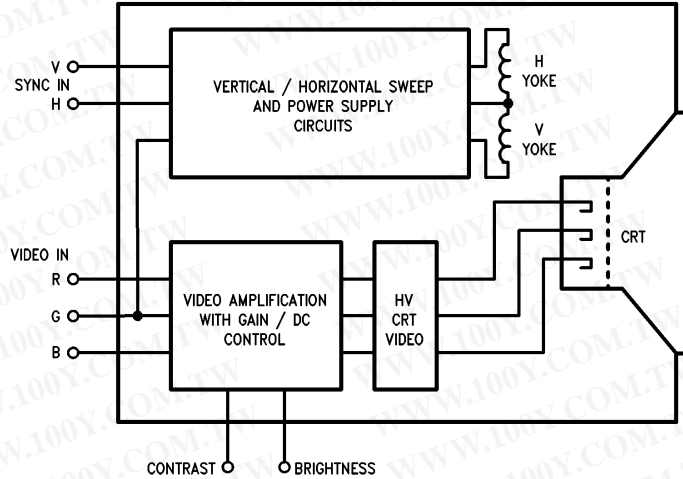

FIGURE 4. Typical RGB Color Monitor Block Diagram
*Figure 4* shows the block diagram of a typical analog RGB color monitor. The RGB monitor is used with CAD/CAM work stations, PC's, arcade games and in a wide range of other applications that benefit from the use of color display terminals. The RGB color monitor characteristics may differ in such ways as sweep rates, screen size, CRT color trio spacing (dot pitch), or in video amplifier bandwidths but will still be generally configured as shown in *Figure 4*. Separate horizontal and vertical sync signals may be required or they may be contained in the green video input signal. The video input signals are usually supplied by coax cable which is terminated in 75Ω at the monitor input and internally ac cou-
pled to the video amplifiers. These input signals are approximately 1 volt peak to peak in amplitude and at the input of the high voltage video section, approximately 6V peak to peak. At the cathode of the CRT the video signals can be as high as 60V peak to peak. One important requirement of the three video amplifiers is that they match and track each other over the contrast and brightness control range. The *Figure 4* block labeled "VIDEO AMPLIFICATION WITH GAIN AND DC CONTROL" describes the function of the LM1203 which contains the three matched video amplifiers, contrast control and brightness control.